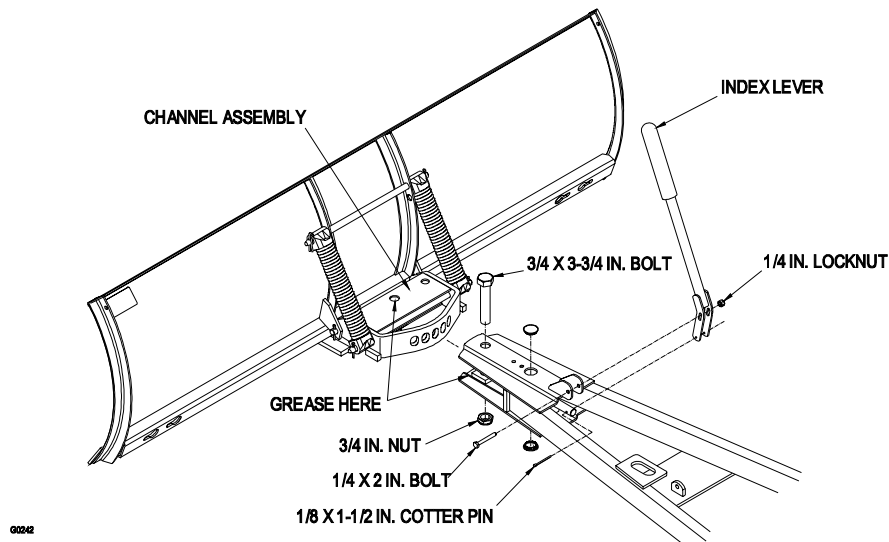

Figure 3
5. Apply general purpose grease to the pivot area of the frame and channel (Fig. 3).
6. Slide the blade channel assembly between the frame mount and secure it with a bolt (3/4 x 3-3/4 in.) and locknut (3/4 in.) (Fig. 3).
7. Connect the index lever to the angle pin with a cotter pin (1/8 x 1-1/2 in.) (Fig. 3).
8. Attach the index lever to the frame assembly with a bolt (1/4 x 2 in.) and locknut (1/4 in.) (Fig. 3).